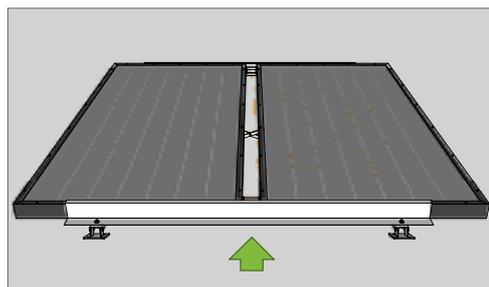

Fig 9
- For multiple panel installation, to ensure tight fit at centre position, tek screw through middle of Z-frame rail/s (at the gap position between panels due to barrel unions) lifting L-support rails so that panel is tight up against Z-frame as shown in fig 9.